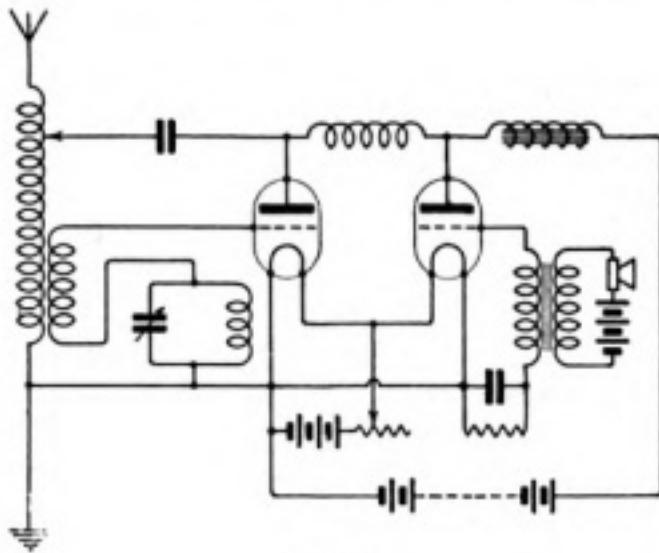

Fig. 4.
(1) See diagram (Fig. 4). (2) It depends largely on the aerial. Try about 40 turns on a former 3" diameter for the A.T.L., and 80 turns on a 2" diameter former for the reaction. (3) Not